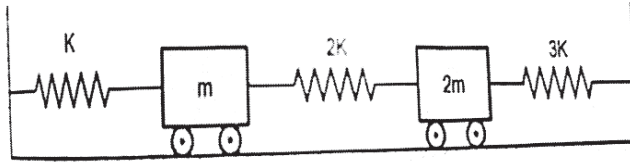

Fig. 5b
- b)** Determine the natural frequency and corresponding mode shapes of given system shown in Fig. 5b when $K = 40 \text{ N/m}$ and $m = 10 \text{ kg}$. [10]